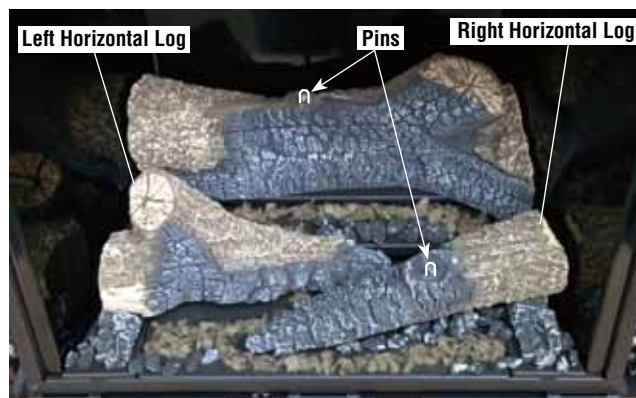

Figure 13
6. Install the left and right horizontal logs as shown in **Figure 13**.